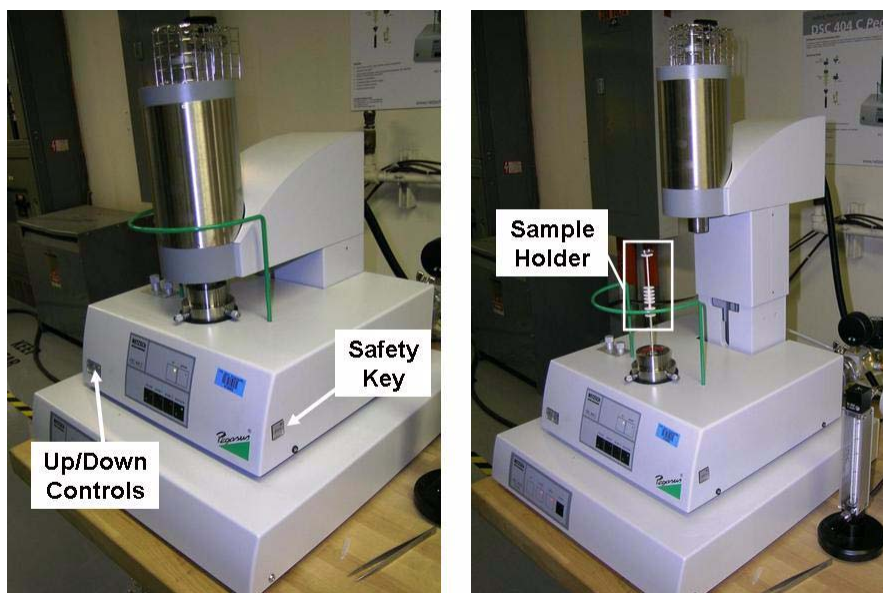

Figure 9. Furnace hoist controls.
Step 9: Open the furnace by simultaneously pressing both the up (denoted by an upward pointing arrow) and “Safety” buttons (as depicted in Figure 9).